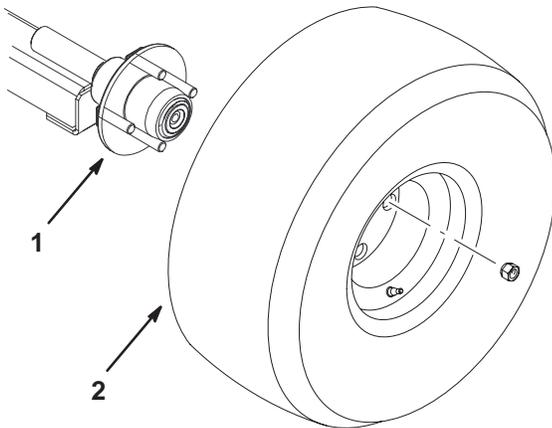

Figure 5
1. Mount a wheel assembly to each axle hub with (4) lug nuts (Fig. 5). Tighten nut to 80 ft/lb.